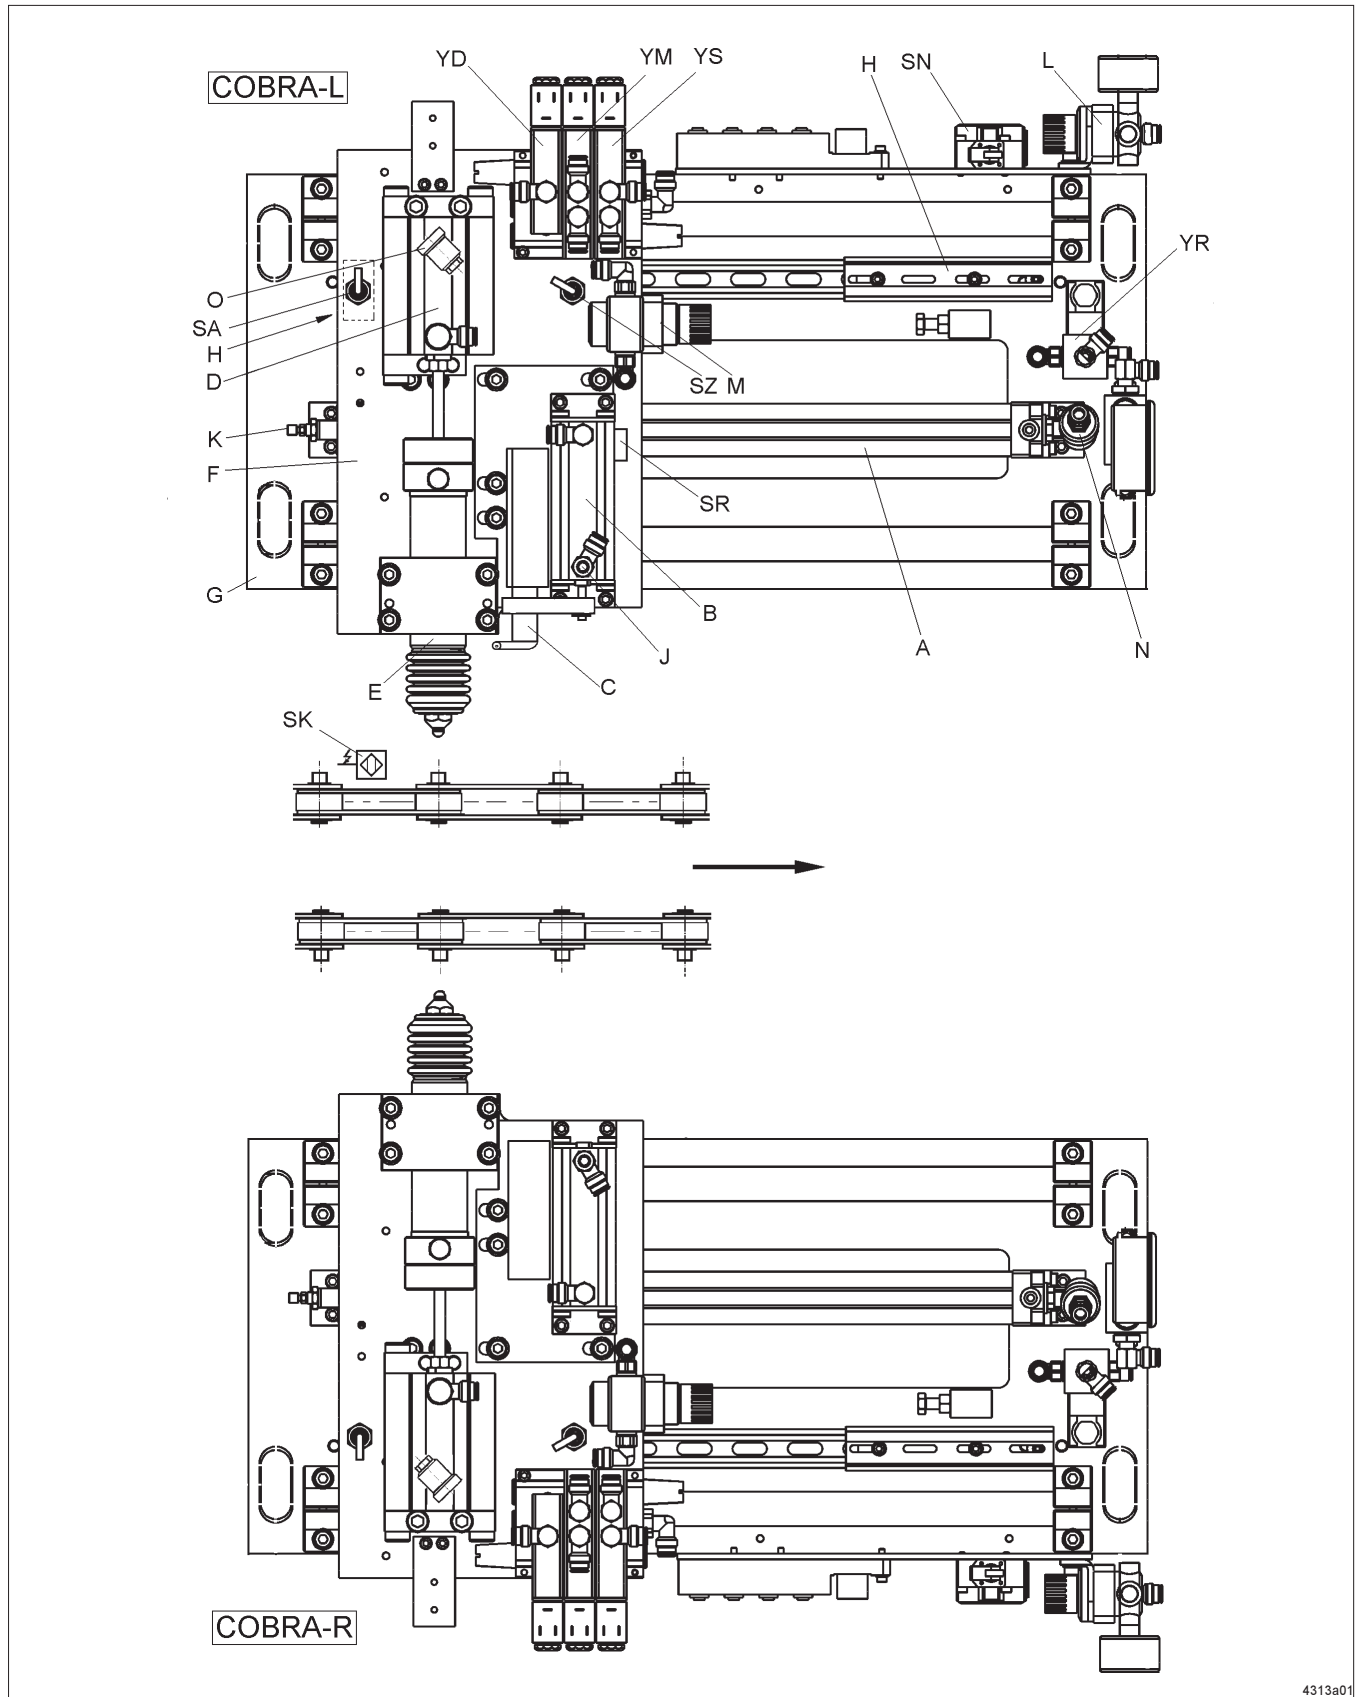
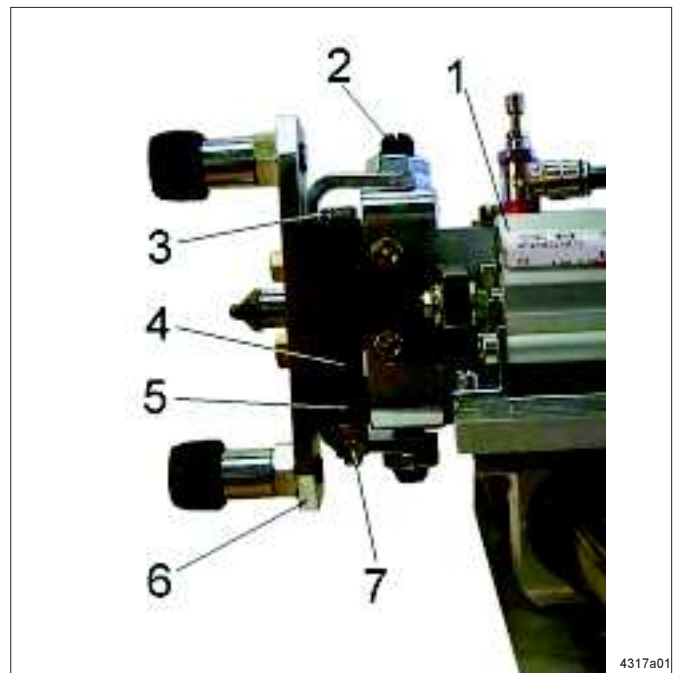
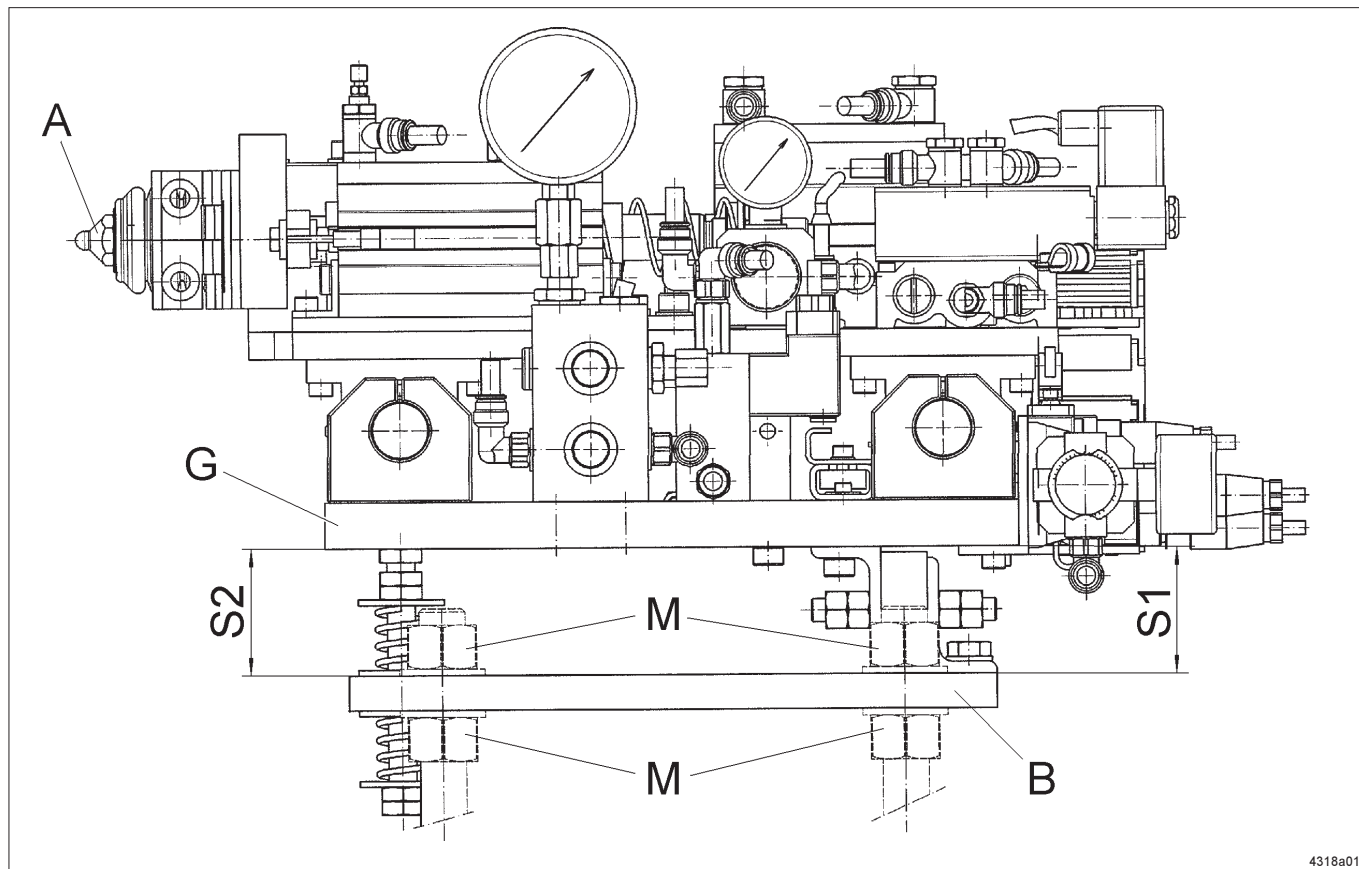

Fig. 2 - Operating mode of the COBRA 501 (COBRA-L = left Cobra, COBRA-R = right Cobra)
Fig. 6: Swing-out mechanism
Fig. 7: Setting of height
- in cases where the pick-up arm (fig. 6, item 6) is still engaged whereas the carriage (fig. 2, item F) already bangs against the stop at the frame,
5.1.1 Settings of the pick-up arm (see Fig. 6 and 7)
- Engaging depth of the pick-up element A, fig. 6, when the cylinder of the pick-up arm is extended: 15 to 25 mm.
- Set the engaging depth by adjusting the lock nut F, fig. 7, on the guiding rod. This will limit the stroke of the pick-up arm (maximum stroke of the pick-up arm: 75 mm).
5.1.2 Setting the distance pick-up arm – lubrication head (see fig. 6, item C)
- Carry out the setting with the COBRA in the state as shown on Fig. 6:
- The cylinder of the pick-up arm is extended; the pick-up element (A) is in contact with the sensor disk (B).
- Unscrew the 4 screws (D), Fig. 7, (M 8 x 18)
- Slide the bearing of pick-up arm (E) until the lubrication head and the lubrication nipple are aligned in one axis with the pick-up element being in contact.
* Tighten 4 screws D, Fig. 7 (M 8 x 18).